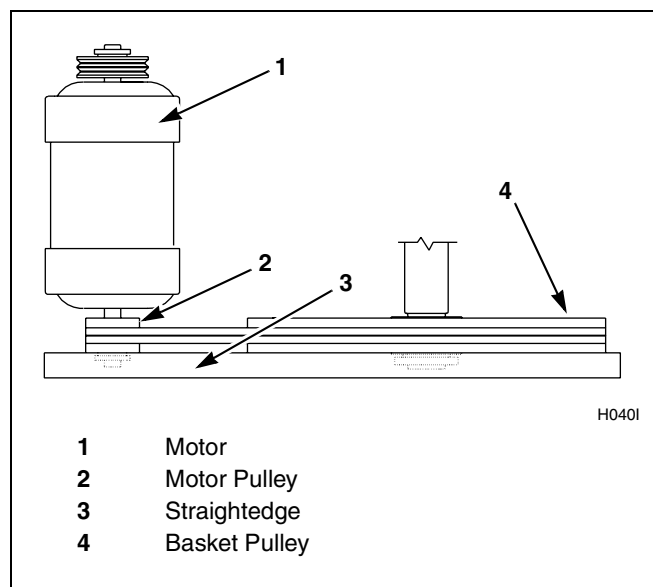

Figure 9
- b. Verify pulley alignment by placing a straightedge across both pulley faces. The straightedge should make contact with the pulleys in four places. Refer to *Figure 9*.